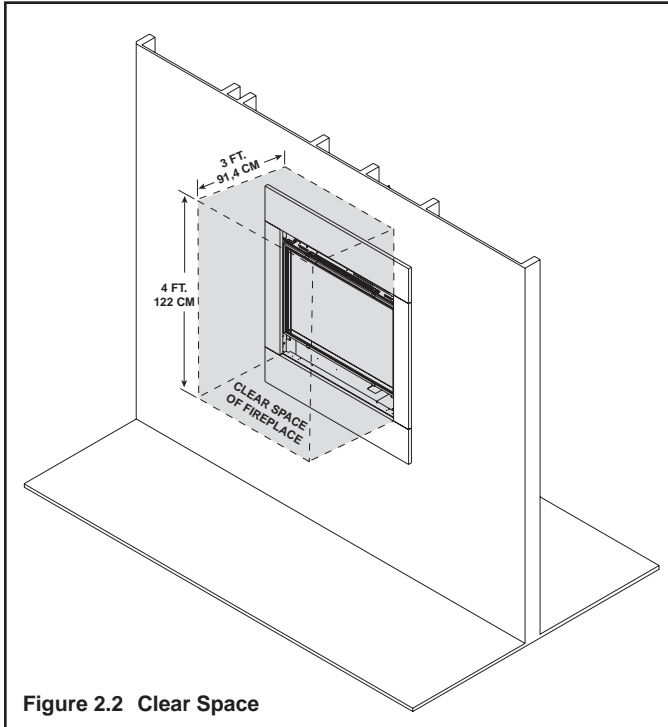

Figure 2.2 Clear Space
**WARNING! DO NOT** place combustible objects within 3 ft. of the front of the fireplace. High temperatures may start a fire. See Figure 2.2.